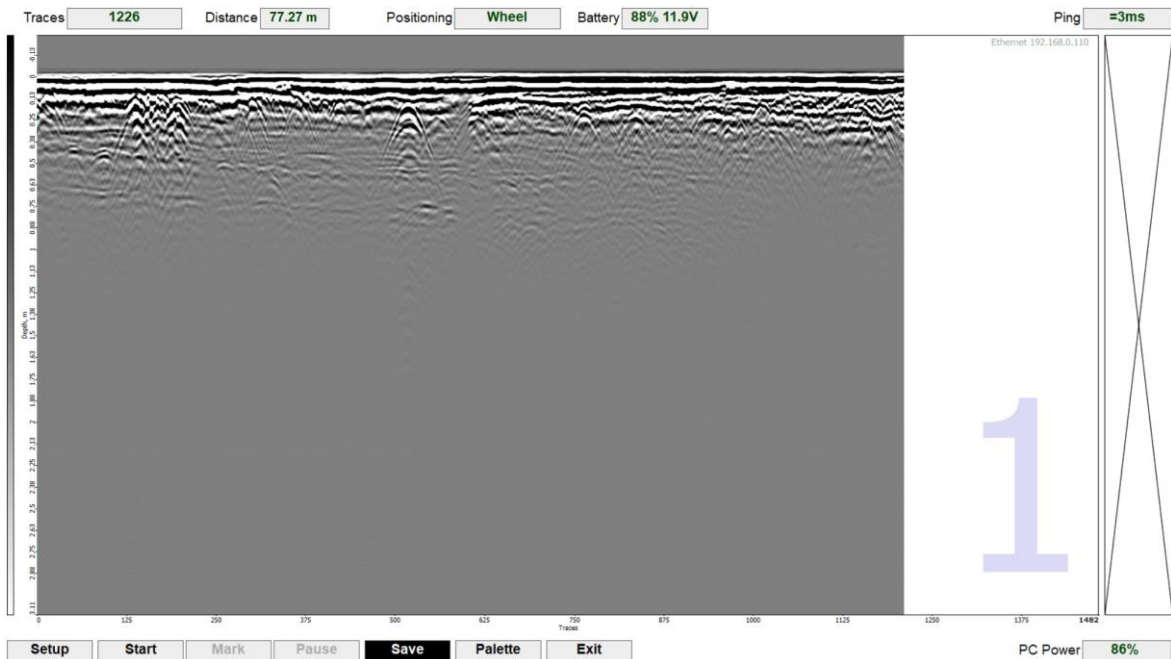

Fig. 9.1b. Data acquisition mode with horizontal toolbar
- **Show channel labels** – enables/disables semitransparent channel labels visibility on the foreground in double channel or circle data acquisition mode (Fig. 9.1b.).